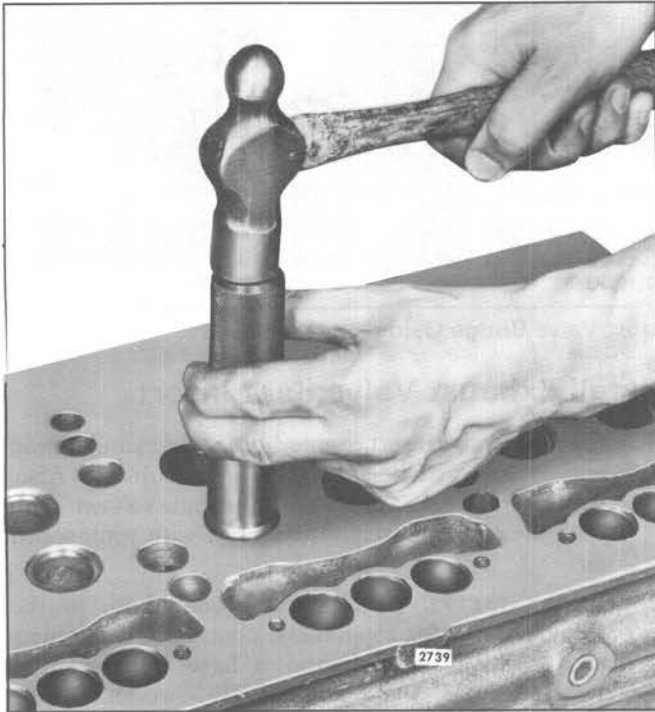

Fig. 10 – Installing Valve Seat Insert with Tool J 24357
5. Drive the insert in place with installer J 24357 (Fig. 10) until it seats solidly in the cylinder head.